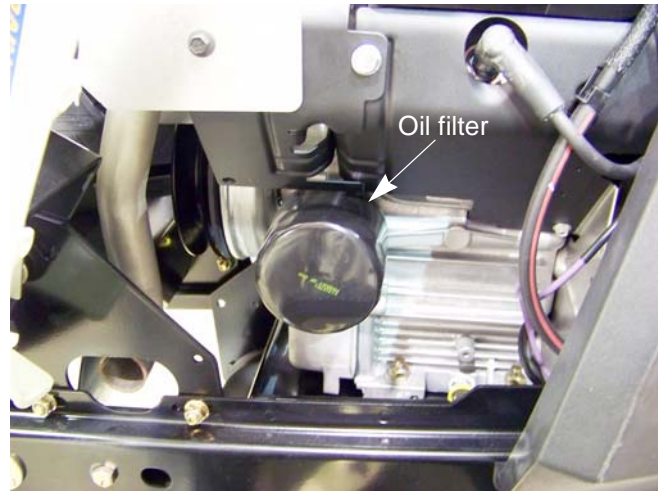

Figure 9.8
3. Remove the oil filter by turning it counter-clockwise, as seen from the right side of the mower. See Figure 9.8.